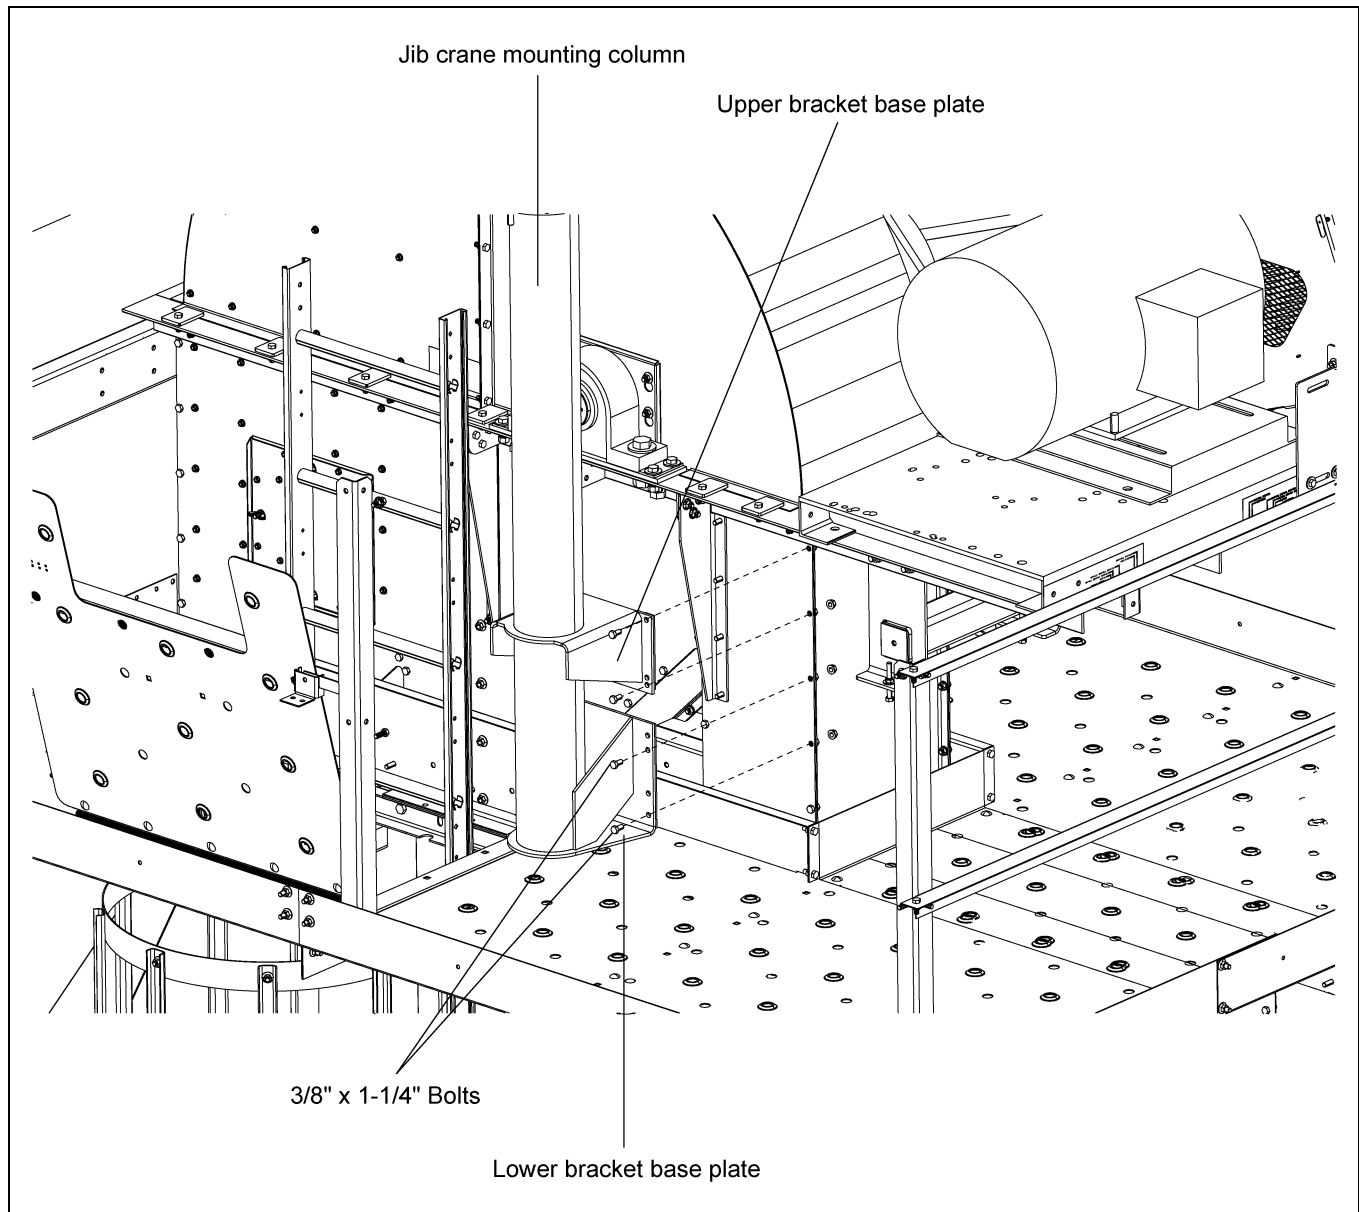
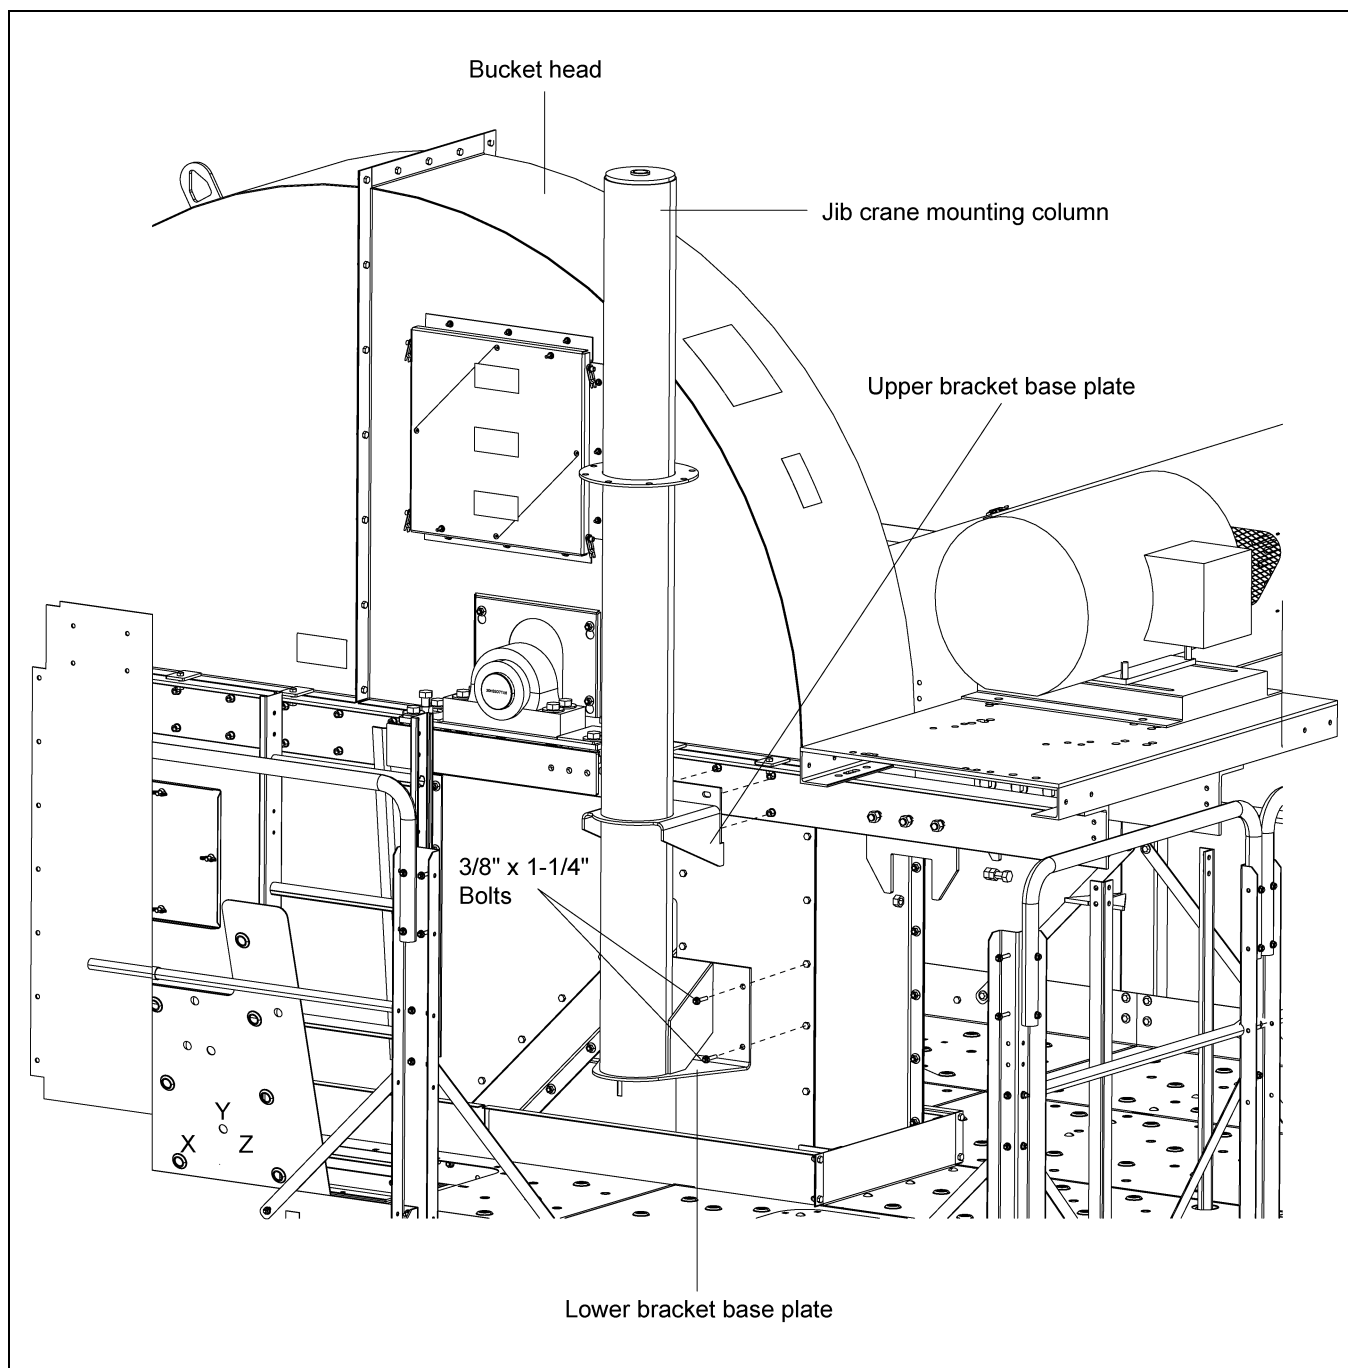

Figure 3A 16"-24" Bucket Elevator
Figure 3B 30"-42" Bucket Elevator
Before attaching the upper bracket base plate to the head, you need to drill out or knock off the heads of the four (4) existing huck bolts (30"-42" elevators only). When the bolts are removed, use 3/8" x 1-1/4" bolts to attach the upper bracket and lower bracket base plate to the bucket head. (See Figure 3A below and Figure 3B on Page 10.)